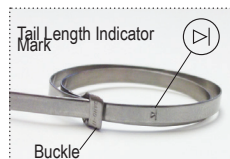

Fig. 3
B. Pull on band until mark is within approximately 6.4mm of buckle slot (Figure 3). The band may be tightened further if desired.
NOTE: Prepared band should have this mark visible approximately where shown in Figure 3.